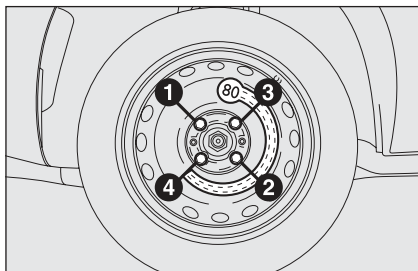

fig. 14
- Using the wrench provided, tighten up the wheel bolts in a criss-cross fashion following the sequence shown **fig. 14**.